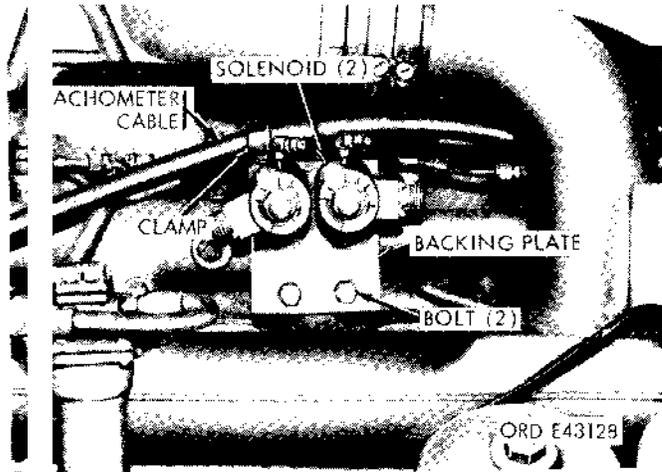

Figure 2-113. Removing two-valve solenoid assembly—diesel models.
- (3) Remove the screw securing the tachometer cable clamp to the solenoid backing plate (fig. 2-113). Separate the cable from the solenoid assembly.
- (4) Unscrew the two bolts mounting the solenoid assembly to the engine, and remove the assembly (fig. 2-113).
- (2) Mount the solenoid assembly to the engine with two bolts (fig. 2-113).
- (3) Use the fourth screw to mount the tachometer cable and clamp assembly to the backing plate (fig. 2-113).